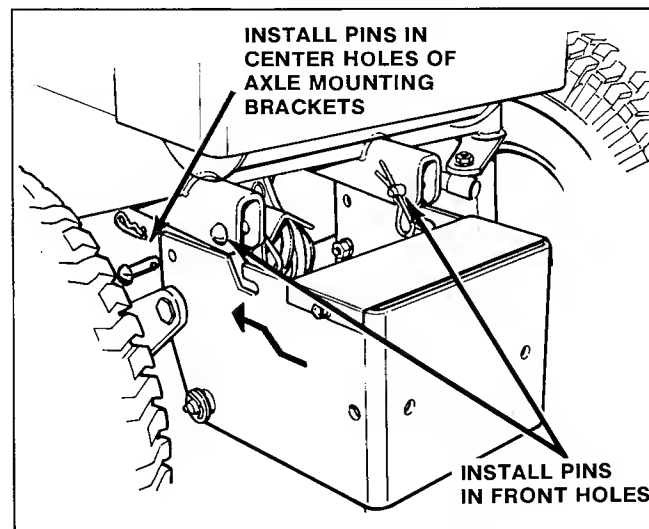

Figure 7. Attaching 42" Mower
5. Install two pins and spring clips through the front holes in the front axle mounting points (see figure 7).
6. Grasp the bottom of the mower hitch to lift and hook it over the two pins just installed in the front axle mounting points (see figure 7).
7. Press down on the front of the mower hitch and rotate the rear of the hitch upward so that the holes in the hitch line up with the center holes in the front axle mounting points. Install two pins and spring clips through the center holes (see figure 7).